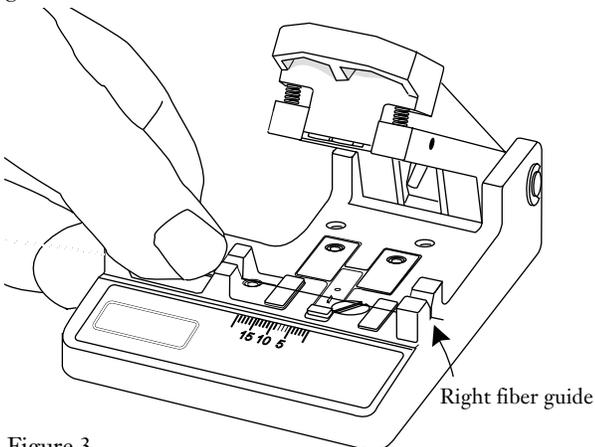

Figure 3
4.6 Place the fiber in the cleaver, aligning the end of the fiber coating with the scale to give the required cleave length. Hold the fiber in place with your left thumb or forefinger (Figure 3).